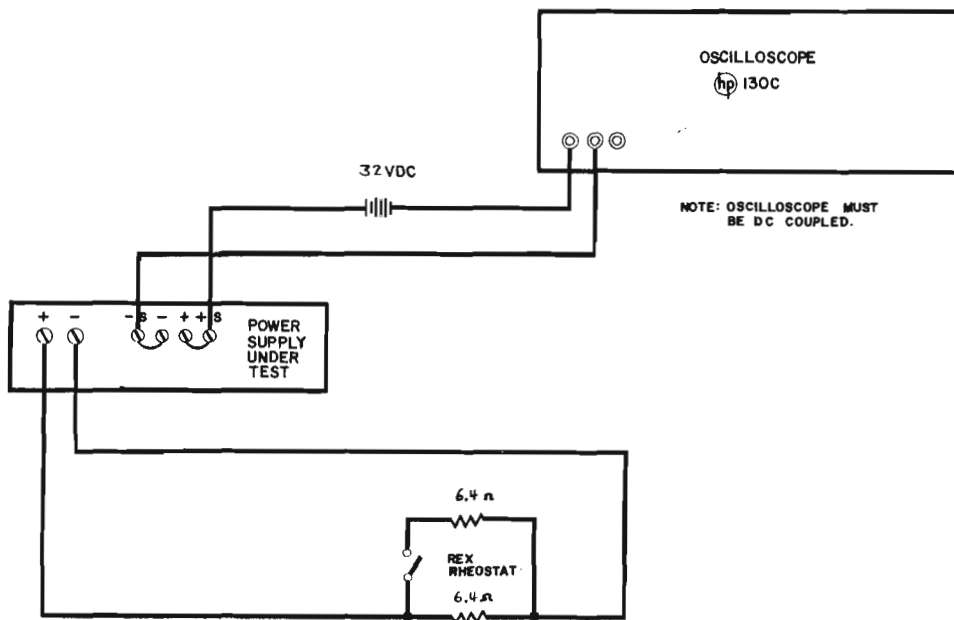

FIGURE 5-4 TRANSIENT RECOVERY TIME, TEST SETUP
- a. Connect test setup shown in figure 5-4.